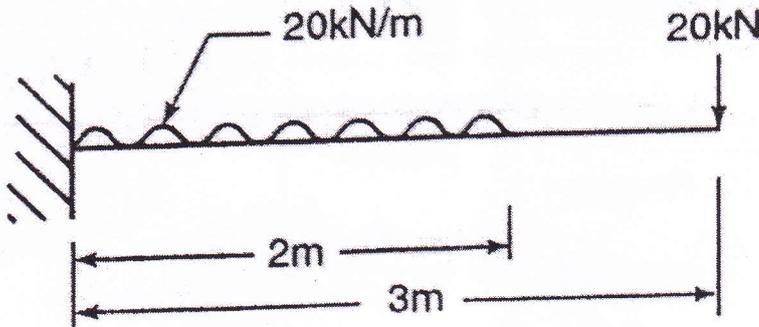

fig. 6a
- a) Determine the maximum deflection for the beam shown in fig 6a, by double integration method. Take $EI=36000\text{kN-m}^2$ 06 L₃ CO5